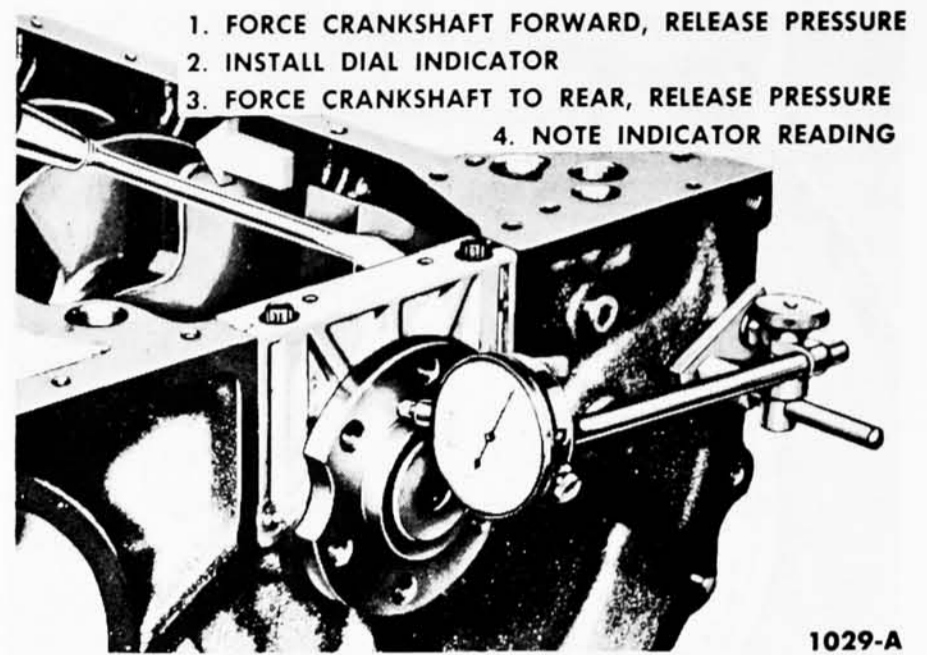

Fig. 26—Crankshaft End Play
**CRANKSHAFT END PLAY.** Force the crankshaft toward the rear of the engine. Install a dial indicator so the contact point rests against the crankshaft flange and the indicator axis is parallel to the crankshaft axis (Fig. 26). Set the dial on zero, then push the crankshaft forward and note the reading on the dial. The end play limits are 0.004-0.008 inch for the 6-cylinder engine